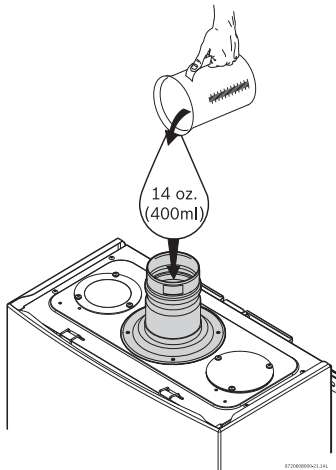

Fig. 35 Filling the condensate trap at start up
- Fill the condensate trap by pouring approx. 14 oz. (400ml) of water into the exhaust accessory on the top of the appliance, see Fig. 35.
Although recirculation directly through the tankless water heater is allowed, temperature stability is improved by recirculating through a mini-tank as shown in Fig. 35. By using the design in Fig. 35, there is no recirculation of hot water through the tankless water heater and therefore, does not affect the heat exchanger warranty of 15 years. Direct recirculation through the tankless water heater is permissible, however, the heat exchanger warranty is reduced to 3 years; contact Bosch Thermotechnology for further installation requirements. The following drawing is provided to outline one possible recirculation design using the water heater in conjunction with an Ariston mini tank water heater. This schematic is for illustration only and must not be used for actual Installation without appropriate engineering and technical advice from a properly licensed professional in the locality where the installation is made.